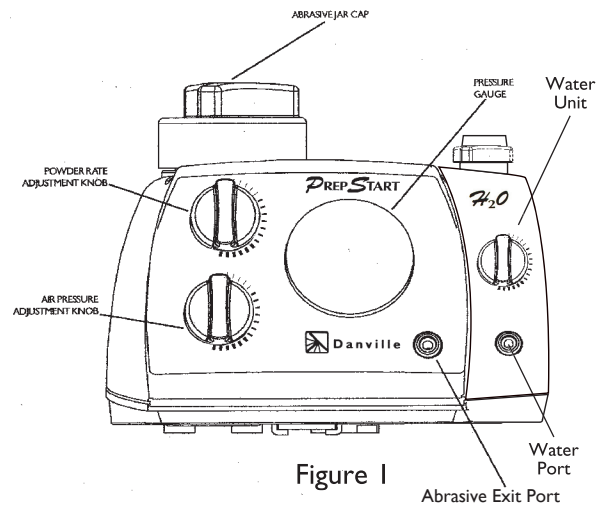

Figure 1
- C. Powder flow control may be increased or decreased by turning the top left hand knob. See Figure 1.